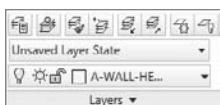

FIGURE 6.34 The A-WALL-HEAD layer is now shown as current in the Layers panel.
3. Click the A-WALL-HEAD layer. The drop-down list closes. "A-WALL-HEAD" appears in the box (see Figure 6.34), telling you that the Headers layer has replaced Walls as the current layer.